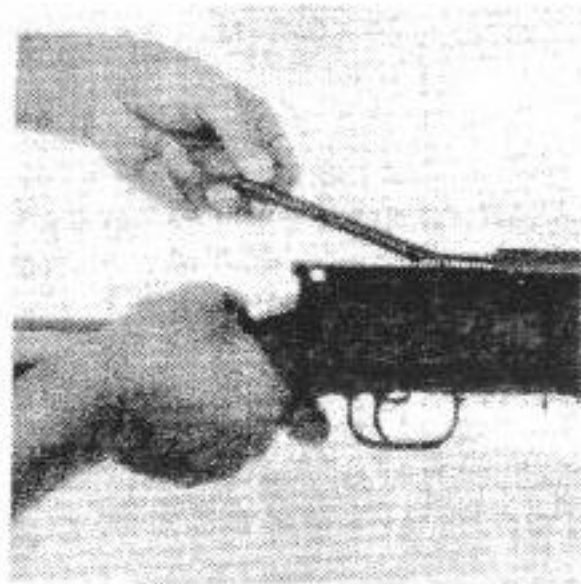

Fig. 4
Step 5: Remove the recoil spring from the rear of the bolt carrier (fig. 4).